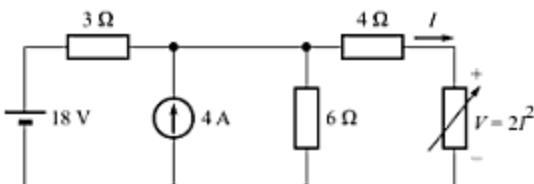

Fig. A-69
- A-27. Use repeated source transformation to obtain current I in the circuit of Fig. A-69. [Ans. 2 A]